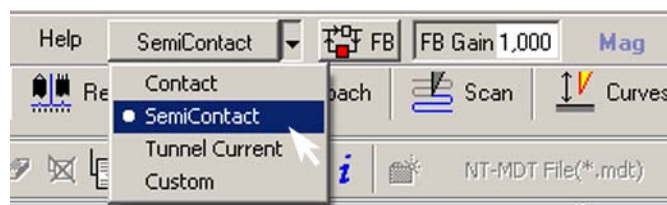

Fig. 3-7
2. Select **SemiContact** in the menu for choosing the electronic configuration on the main parameters panel (Fig. 3-7).